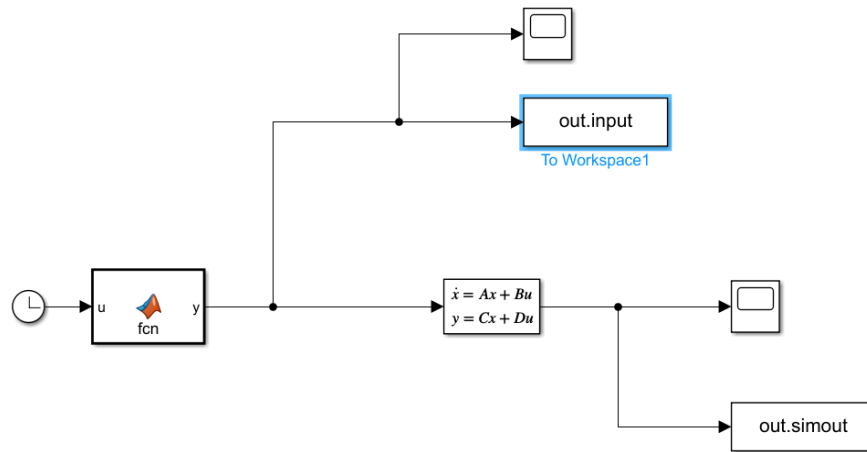

Figure 4.1: Simulink model for Lab 4
4. Prepare the **Simulink** model shown in Figure 4.1. You could use the model in Lab 2 if you saved it, just change the **Pulse Generator** to the **fcn** and **clock** blocks.